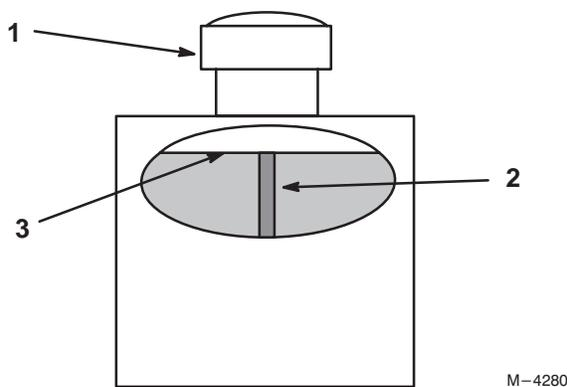

Figure 37
2. Clean area around filler neck of hydraulic tank (Fig. 37).
3. Remove cap from filler neck. Look inside to check if there is fluid in the reservoir. (Fig. 37).
Note: Fluid level should be to the top of the baffle when fluid is warm (Fig. 37).